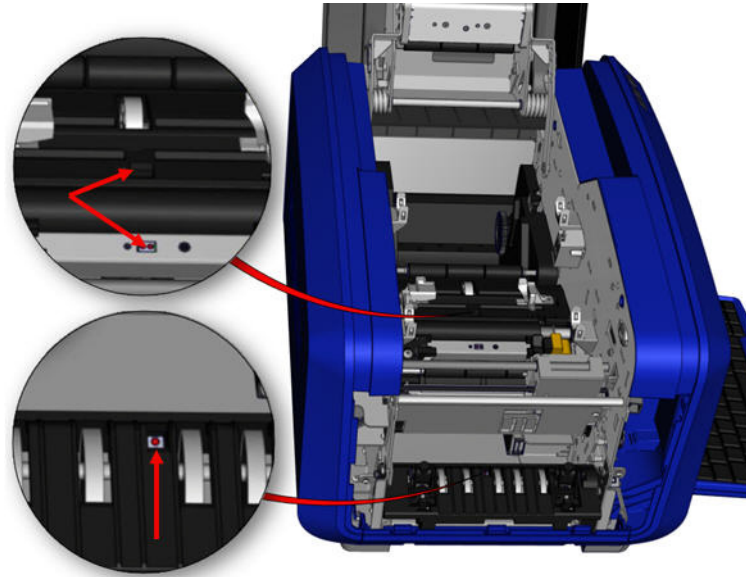

Figure 14 • Sensor locations
4. Clean the other three sensors indicated in Figure 14.